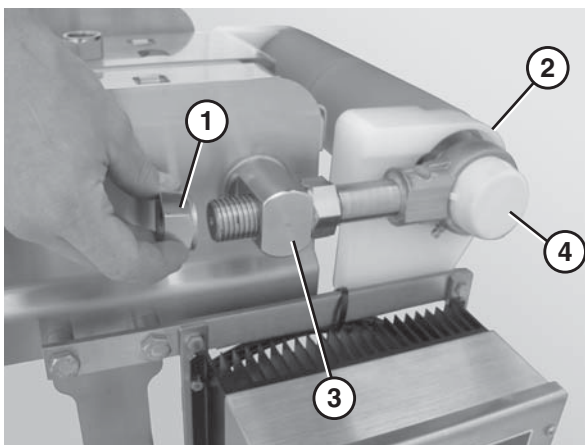

Figure 60
1. Remove the back nuts (Figure 60, item 1) on both idler tail shafts.
2. Slide the idler tail assembly (Figure 60, item 2) out of the take up blocks (Figure 60, item 3).
3. Remove the bearing covers (Figure 60, item 4).